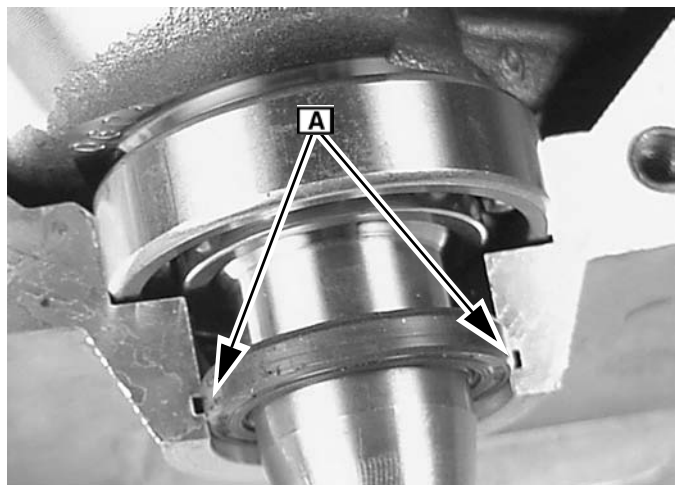

Fig. 71
- Slide seals over crankshaft and position them so that they are centered over the grooves in the cylinder crankcase **A** (Figure 71). Make sure seals are not crooked or tilted in any way.